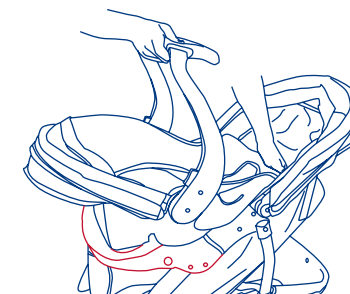

Fig. 14
- Position the Infant Car Seat, facing toward the rear of the stroller, so that the seat shell goes into the front tray and latches into place. (Fig. 14) Check that the Infant Car Seat is firmly locked onto the front tray before using.